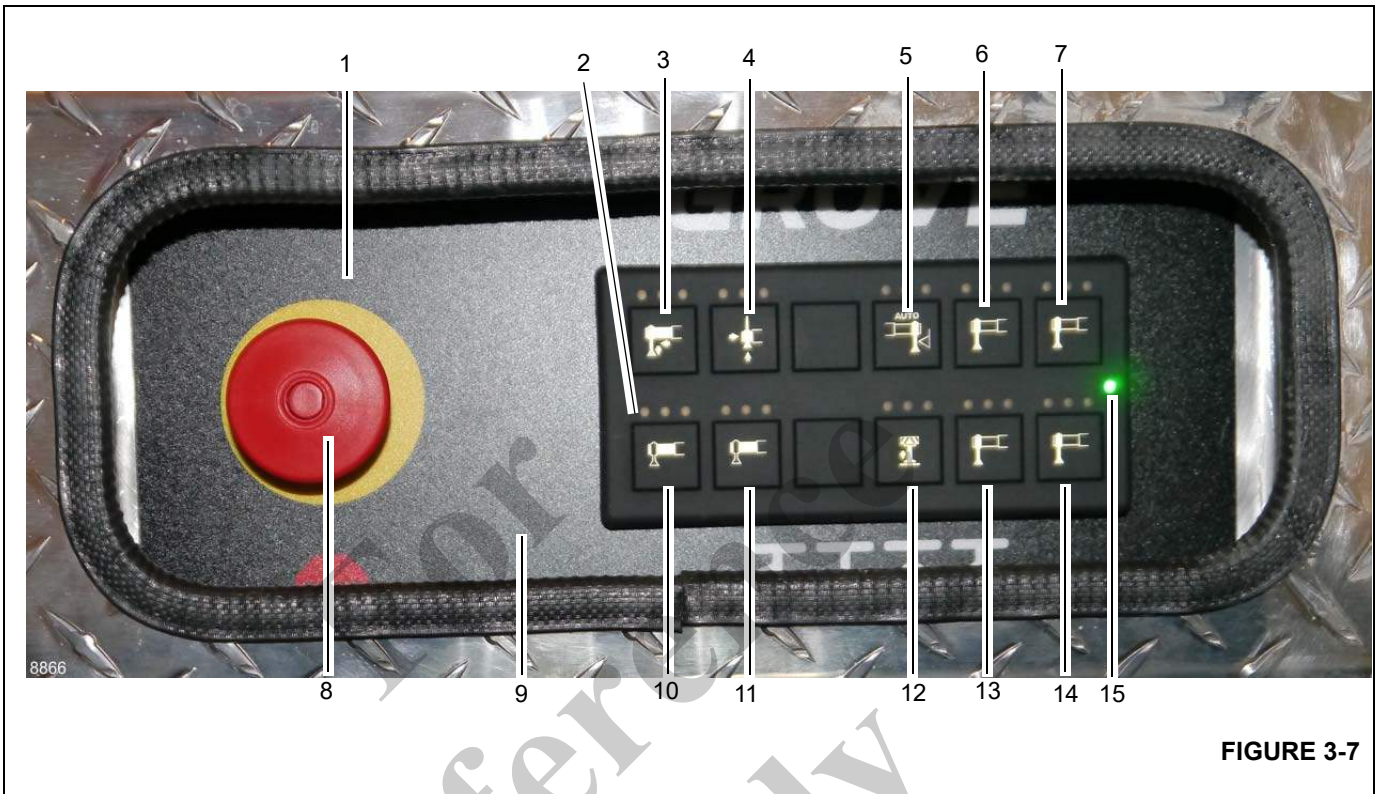

FIGURE 3-7
outriggers. The numbers in parentheses in each paragraph represents the index number from the outrigger panel illustration (Figure 3-7).
A push button emergency stop switch (8), (Figure 3-7) is installed on the panel.
A bubble level indicator (not shown) (9), (Figure 3-7) is installed at the bottom of the outrigger panel.
There is one Outrigger Control Panel (1), (Figure 3-7) on each side of the crane's frame. The panel on the right side operates the outrigger beams for that side only. The panel on the left side operates the outrigger beams for that side only. The jacks may be operated from the left or right side of the crane.
The Green LED (15), (Figure 3-7) illuminated is the keypad "Power" LED meaning that the keypad is properly powered (power and ground).
The Outrigger Beam Selector Push Buttons (Front and Rear) (10 and 11), (Figure 3-7) are used to select the desired operation of the front or rear outrigger beams for the side of the unit the control panel is on.
The Extend Push Button (3), (Figure 3-7) will operate both the outrigger beams or the jacks. While depressing the desired combination of selector buttons, pushing the Extend Push Button will move the selected component in the extend direction.
The Center Front Stabilizer Push Button (12), (Figure 3-7) is located in the center of the outrigger control panel. It must be used in conjunction with the Extend (3), (Figure 3-7) and Retract (4), (Figure 3-7) Push Buttons to control the operation of the Center Front Stabilizer. The Center Front Stabilizer will retract automatically when **NOT** in the Cribbing Mode. For additional information on Cribbing Mode, refer to *Methods and Requirements for Activating Cribbing Mode*, page 4-35 and/or *Methods and Requirements for Activating Cribbing Mode*, page 4-35.
The Jack Selector (Front/Rear) Left and Right Push Buttons (6, 7, 13, and 14), (Figure 3-7) selects which jack is to be operated.
The Emergency Stop Switch (8), (Figure 3-7) is located on the left center side of the outrigger panel. Push the switch to stop the engine and all hydraulic functions.
The Retract Push Button (4), (Figure 3-7) will operate both the outrigger beams or the jacks. While depressing the desired combination of selector push buttons, pushing the Retract Push Button will move the selected component in the retract direction.
The Power Indicator (15), (Figure 3-7) illuminates green when power is available to the control panel.
The Auto-Level Push Button (5), (Figure 3-7) is used to automatically level the crane. The auto leveling algorithm adjusts the crane carrier angle while retracting the outrigger jacks. Thus, it is necessary to fully extend the outrigger jacks prior to pushing the auto level button.
The Bubble-Level Indicator (9), (Figure 3-7) (Not Shown) is located at the bottom of each outrigger control panel. If suspected that the bubble-level indicator is out of adjustment, refer to *Bubble-Level Indicator Adjustment*, page 4-34.
Each button on the Outrigger Control Panel has three (3) LED lights (2), (Figure 3-7) above it: (one Green; one Yellow; and one Red).